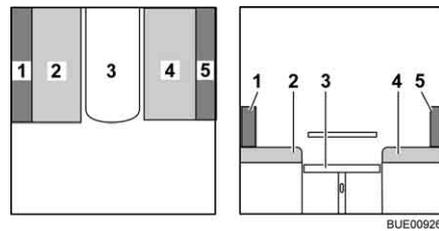

Fig. 87 During conversion
- Remove the back cushion (Fig. 87,5) and lay it aside.
- Pull the seat cushion (Fig. 87,2) into the middle.